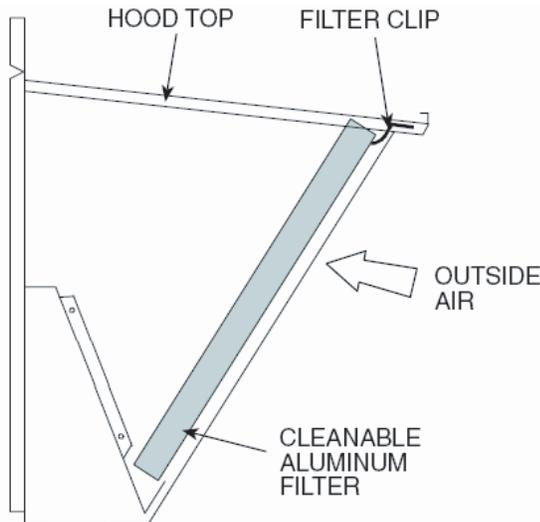

Fig. 5 - Filter Installation
10. Install the provided aluminum filter into the hood. Lock in place with top filter clips. (See Fig. 5.)